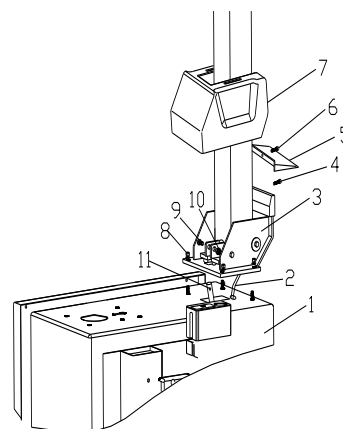

Fig 3
2) Place the tilting seat (3, Fig 3) on the body (1, Fig 3) with 4 bolts (M12), push air hose (2, Fig 3) through the hole of the column. Tighten 4 self-locking nut(8, Fig 3).
3) Insert screw (9, Fig 3) into the holes of both column and tilting cylinder shaft (11, Fig 3), tighten it with self-locking nut (10, Fig 3).
4) Unscrew the two bolts on the left cover and remove the cover, connect air hose (2, Fig 3) previously mentioned to the side holes which control the tilting 5-way valve. Fix the left cover.
5) Fix the plastic cover (7, Fig 3) with two bolts (4, Fig 3).
6) Mount the plastic back cover (5, Fig 3) on the column with screw (6, Fig 3).